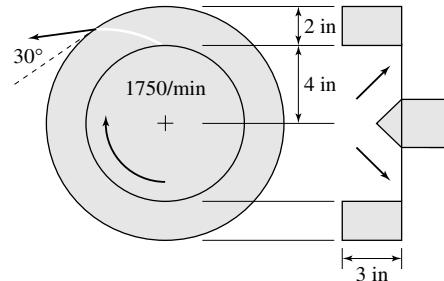

Fig. P11.21
**11.21** The centrifugal pump of Fig. P11.21 develops a flow rate of 4200 gpm with gasoline at 20°C and near-radial absolute inflow. Estimate the theoretical (a) horsepower; (b) head rise; and (c) appropriate blade angle at the inner radius.